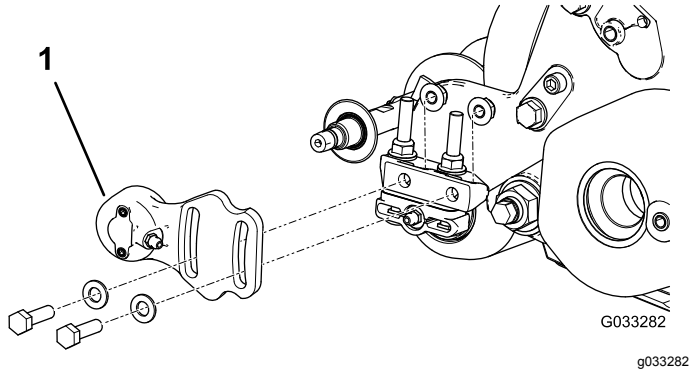
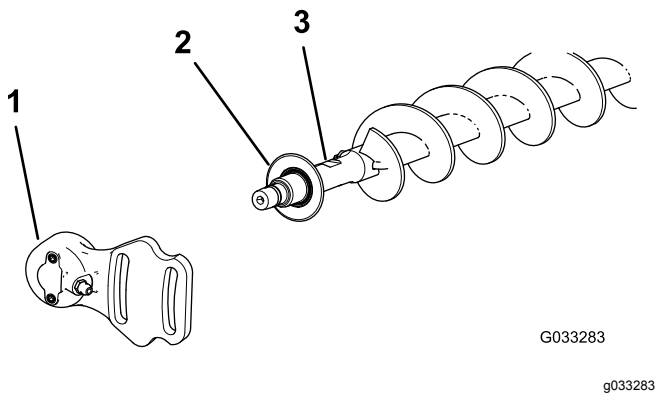

Figure 17
Figure 18
1. If a roller brush is installed on the cutting unit, remove the 2 bolts, washers, and nuts securing the non-drive-bearing housing to the bearing-housing mounting bracket (Figure 17 and Figure 18).
2. Slide the non-drive-bearing housing and the excluder seal off the brush shaft (Figure 18).
9. Install the excluder seal and the non-drive-bearing housing onto the brush shaft (Figure 18).